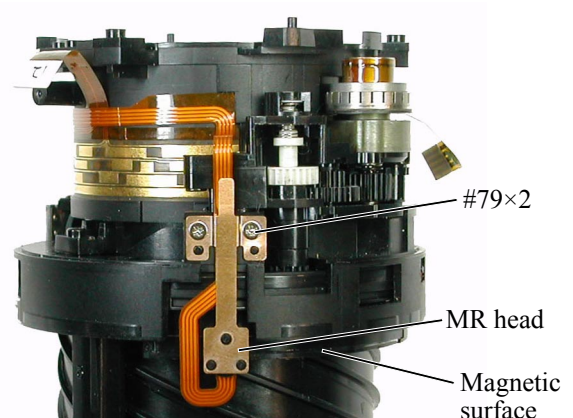

Fig.2
- ⑥ In case the amplitude is small, disassemble up to the stage of the zoom ring. Then if the deformation is detected in the MR head, correct the deform of the MR head. On the other hand, if such correction is impossible or no deformation is detected, replace the MR unit. (Fig.2)